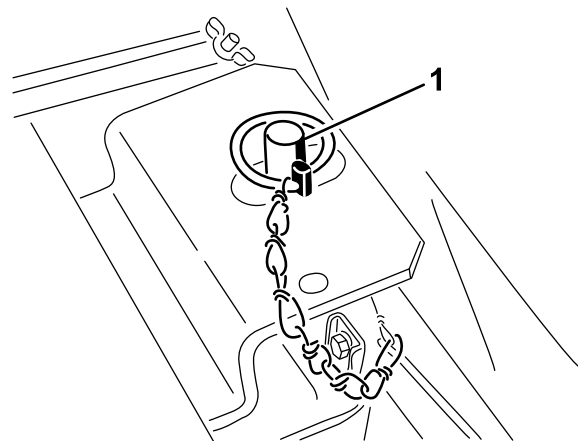

Figure 11
6. Disengage seat support rod and pivot downward. Pivot seat down and push lynch pin through seat latch stud. Flip wire end of pin over latch stud (Figure 11).
- 8. Disengage seat support rod and pivot downward. Pivot seat down and push lynch pin through seat latch stud. Flip wire end of pin over latch stud (Figure 11).